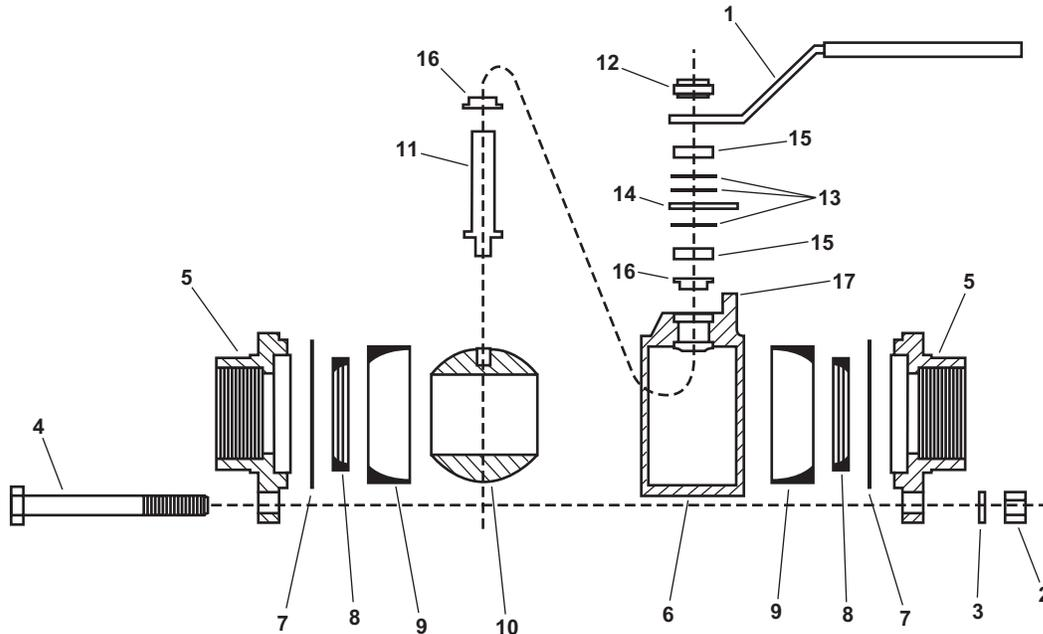

Figure 1. Sil Braze Ball Valve
1. Cycle the affected valve handle (figure 1, item 1) to drain any fluid, and remove any pressure from the valve body cavity.
2. Unscrew and remove the three sets of nuts (figure 1, item 2) and lockwashers (figure 1, item 3) from the bolts (figure 1, item 4). Discard the lockwashers (figure 1, item 3).
3. Pull the end fittings (figure 1, item 5) free of the valve body (figure 1, item 6).
4. Remove the gaskets (figure 1, item 7) and seats (figure 1, item 8) from the end fittings (figure 1, item 5). Discard the gaskets.
5. Remove the cavity filler (figure 1, item 9) from the ball (figure 1, item 10), and discard.
6. Turn the stem (figure 1, item 11), to position the ball (figure 1, item 10), to the CLOSED position, and remove the ball from the valve body (figure 1, item 6).
7. Unscrew and remove the locking jam nut (figure 1, item 12) from the handle (figure 1, item 1), and remove the handle. Discard the jam nut (figure 1, item 12).
8. Remove the three spring washers (figure 1, item 13), stop disk (figure 1, item 14), and followers (figure 1, item 15) from the stem (figure 1, item 11). Discard the spring washers (figure 1, item 13).
9. Push the stem (figure 1, item 11) down and out of the open end of the valve body (figure 1, item 6).
10. Remove the upper and lower valve packing (figure 1, item 16) and discard.
1. Place the new bottom packing (figure 1, item 16) over the stem (figure 1, item 11) with the flanged surface seated against the flange on the stem.
2. Insert the stem (figure 1, item 11) into the valve body (figure 1, item 6) bore.
3. Install the new upper packing (figure 1, item 16) over the stem (figure 1, item 11) with the flanged surface facing upward, and push the packing into the valve body (figure 1, item 6) counter bore.
4. Install the bottom follower (figure 1, item 15) over the stem (figure 1, item 11), and push it into place in contact with the upper packing (figure 1, item 16).
5. Lubricate the valve stem (figure 1, item 11) threads with antiseizing compound.
6. Install the first new spring washer (figure 1, item 13) over the stem (figure 1, item 11) with the concave side facing upward.
7. Install the stop disk (figure 1, item 14).
8. Install the second new spring washer (figure 1, item 13) with the concave side facing downward, resting on the stop disk (figure 1, item 14).
9. Install the third spring new washer (figure 1, item 13) with the concave side facing upward.
10. Install the top follower (figure 1, item 15) on the stem (figure 1, item 11) in contact with the third new spring washer (figure 1, item 13).
11. Install the handle (figure 1, item 1) over the top follower (figure 1, item 15) on the stem (figure 1, item 11) such that the handle is over the stop pin (figure 1, item 17) on the stop disk (figure 1, item 14) when the valve is in the OPEN position.
12. Install a new jam nut (figure 1, item 12) on the stem (figure 1, item 11) to retain the handle (figure 1, item 1) in place. Tighten the jam nut until all spring washers (figure 1, item 13) are fully compressed and then loosen 1/8th of a turn.
13. Install new seats (figure 1, item 8) in the end fittings (figure 1, item 5) with the flat end of the seat inserted in the flat recess in the end fitting.
14. Install new gaskets (figure 1, item 7) on the end fittings (figure 1, item 5).